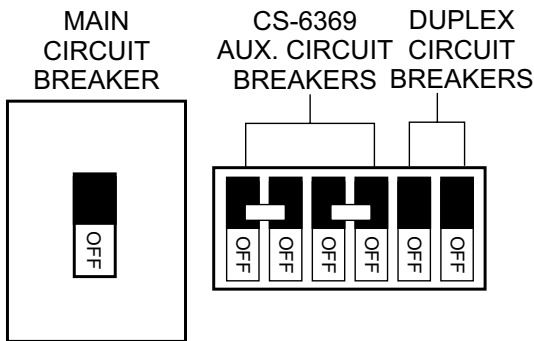

Figure 36. Main, Aux. and Duplex Circuit Breakers (OFF)
- Place the **Main, Aux.** and **Duplex** circuit breakers (Figure 36) in the **OFF** position prior to starting the engine.